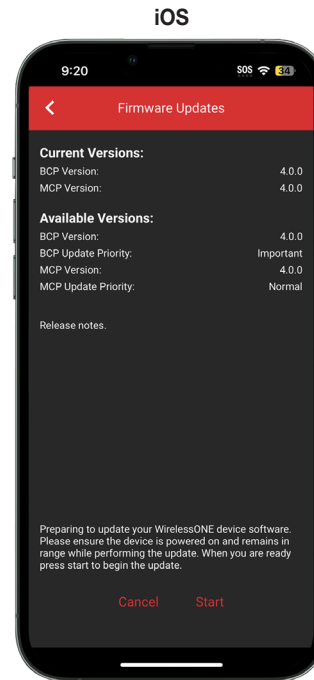
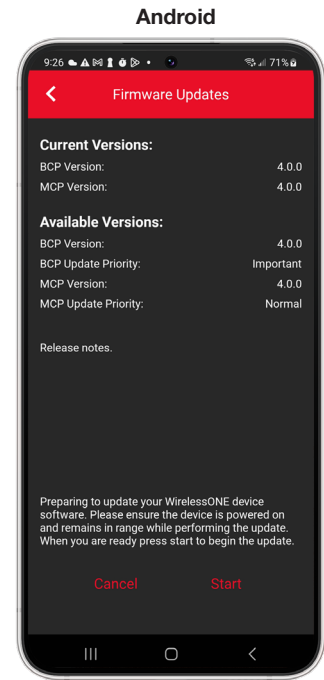

fig. E.7
fig. E.8
1. The phone must be connected to the internet and the app must be connected to the manifold to change firmware on the manifold (Fig. E.7 & Fig. E.8).